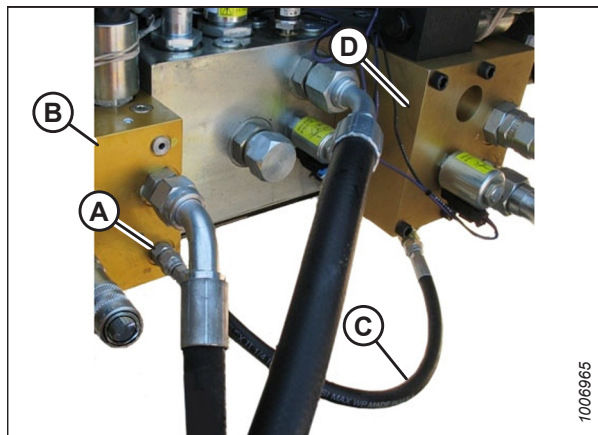

Figure 3.83: Connected Jumper Hose
2. Disconnect jumper hose (B) from 90 degree fitting (C) at port R4 on reverser valve block (A).
3. Rotate 90 degree fitting (D) under the reverser valve block so that the hose can be routed to port C2 at (C) as shown in Figure 3.83, page 65.